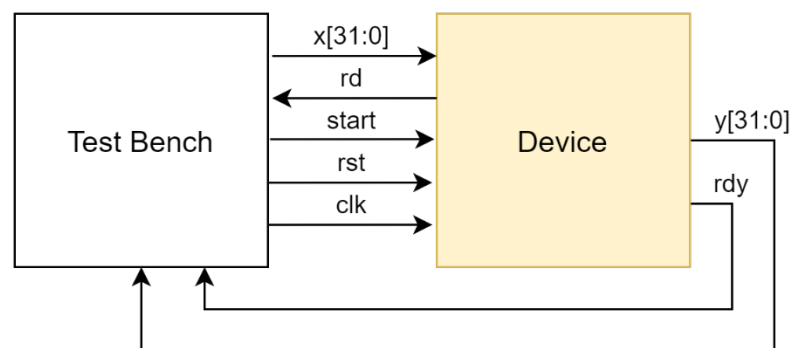

Figure 1. The developing system
1. Develop the device that can read N values (x values) from the external memory and perform the operations according the variant task. The signal interface is presented in Figure 1 and contents such signals as: